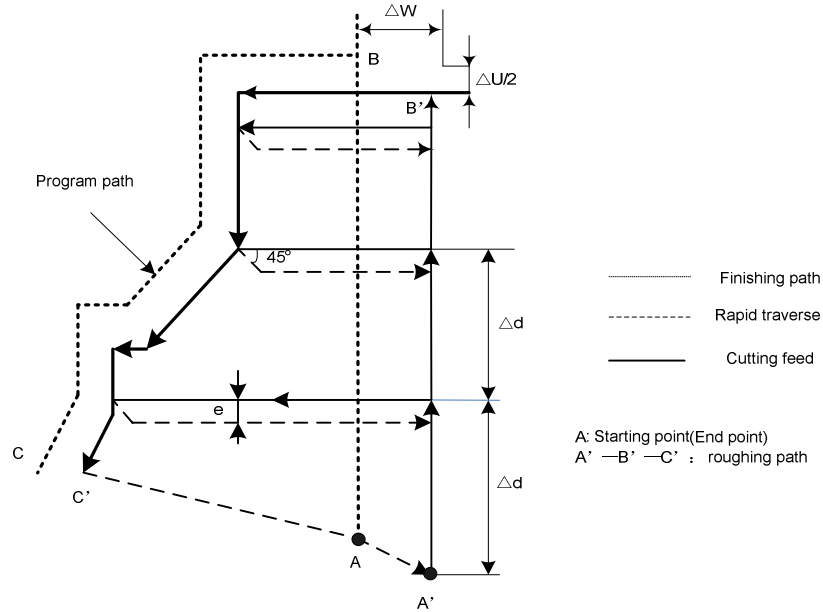

Fig. 3-25 G71 cycle path
1) Execution process: (Fig. 3-25)
- ① X rapidly traverses to A' from A point, X travel is Δu , and Z travel is Δw ;
- ② X moves from A' is Δd (tool infeed), ns block is for tool infeed at rapid traverse speed with G0, is for tool infeed at feedrate F with G71, and its direction of tool infeed is that of A→B point;
- ③ Z executes the cutting feeds to the roughing path, and its direction is the same that of Z coordinate A→B point;
- ④ X, Z execute the tool retraction e (45° straight line) at feedrate, the directions of tool retraction is opposite to that of too infeed;
- ⑤ Z rapidly retracts at rapid traverse speed to the position which is the same that of Z coordinate;
- ⑥ After executing X tool infeed ($\Delta d + e$) again, the end point of traversing tool is still on the middle point of straight line between A' and B' (the tool does not reach or exceed B'), and after executing the tool infeed ($\Delta d + e$) again, execute ③; after executing the tool infeed ($\Delta d + e$) again, the end point of tool traversing reaches B' point or exceeds the straight line